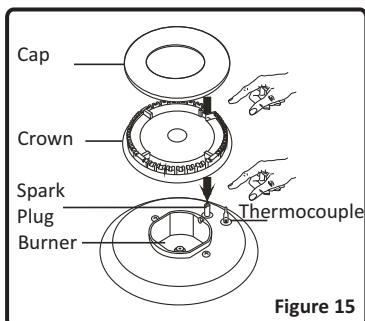

Figure 15
After the ignition, check the flames visually. If you see yellow tip, lifted or unstable flames; turn the gas flow off, and check the assembly of burner caps and crowns (Figure 15). Also, make sure that no liquid has flown into the burner cups. If the burner flame goes out accidentally, turn the burner off, ventilate the kitchen with fresh air, and do not attempt re-ignition for 90 sec.
- Lift up the pan supports, caps and crowns of hob burners(Figure 15).